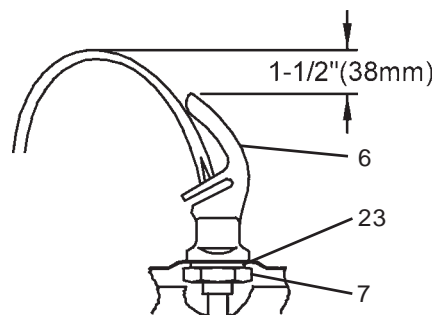

FIG. 6
9. Check stream height from bubbler. Stream height is factory set at 35-40 PSI. If supply pressure varies greatly from this, remove items 3 & 4 and adjust the screw on regulator (Item 8). Clockwise adjustment will raise stream height and counter-clockwise will lower stream height. For best adjustment stream height should be approximately 1 1/2" (38mm) above the bubbler guard. (See Figure 6)
10. Mount lower panel. Loosen the (2) #10-24 x 5/8" (16mm) screws at frame bottom lip. Slide upper tongue of lower panel under lower edge of already installed upper panel. Tighten previously loosened screws securely.